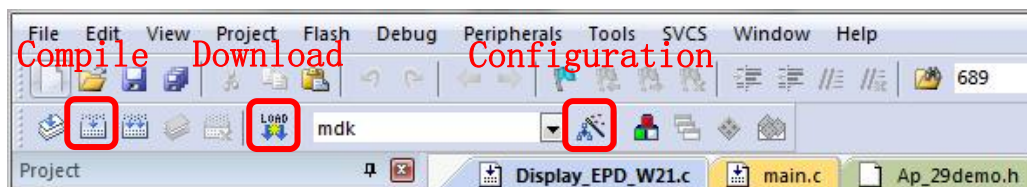

Figure 13 : Keil4 toolbar
3) The Keil4 toolbar is shown in Figure 13. Please click  at the first time using the simulator and a box like Figure 14 will pop up. Choose the simulator model of yours in the "Debug" bar, and click "OK" to confirm.
- 5) Click  in the toolbar in Figure 13 to compile.
- 6) Click  in the toolbar in Figure 13 to download.
- 9) If you want to change a image, you need to use Keil4 to change the image data (Figure 15), compile it (Figure 13) to generate a new mdk.hex file, and then re-select the file to download it.